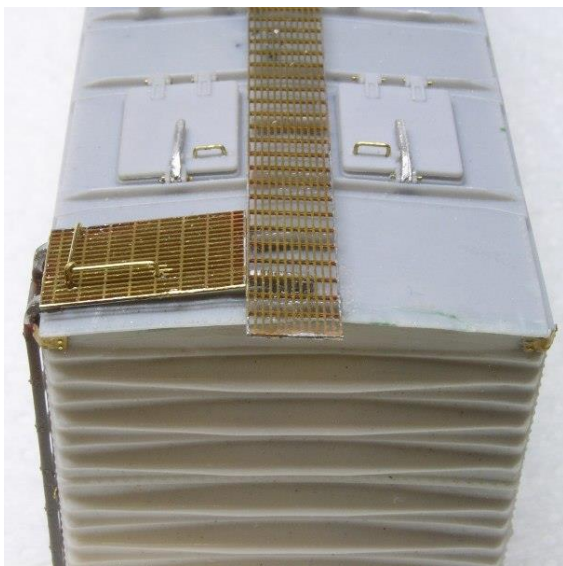

Figure SRB6a
6. Use 0.014" rod to form the "L" shaped grab irons that will thread through the angled eyelet and into the holes that are drilled next to the two outer bolt heads. The grab irons should be approximately 3 1/2" from the surface of the lateral running boards. See Figure SRB6a and Figure SRB6b